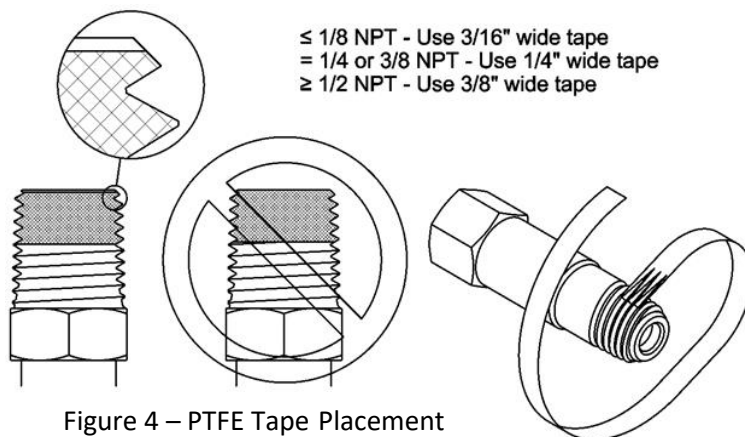

Figure 4 – PTFE Tape Placement
- Start the PTFE tape on the first thread, leaving a slight section of the chamfer exposed as shown in Figure 4. Make sure the tape does not overlap the end of the fitting.